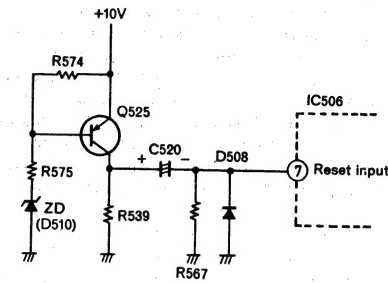

Fig. 12
This circuit is so that the operation of the microcomputer starts at the beginning when power is first supplied to the microcomputer or when power for the microcomputer drops instantaneously for any reason and rises again to the operational voltage. Terminal (7) of the microcomputer is set to L level during general operation, but when the power is supplied for the first time or when the power drops and rises again, the voltage applied to the zener diode becomes larger than the zener voltage in the initial reset circuit as shown in Fig. 12, the inverse current becomes larger and the circuit is active so the base current of Q525 flows via R575 and ZD, and Q525 turns ON. Voltage drop occurs in R539 because of the collector voltage, and current flows through R567 until charging of C520 is complete. The voltage drop of R567 sets terminal (7) of IC506 to H level. When charging of C520 is complete, the voltage drop in R567 stops so terminal (7) of IC506 is set to L level. D508 is used for quick discharging when the power is turned OFF. Q525 is the switching transistor which prevents the charging current from flowing to C520 before the applied voltage becomes less than the zener voltage. When the applied voltage exceeds the zener voltage, Q525 turns ON and makes the voltage drop in R567 larger by making the charging current just after Q525 is turned ON larger. This transistor ensures that the reset signal generates even when the power rises gradually.